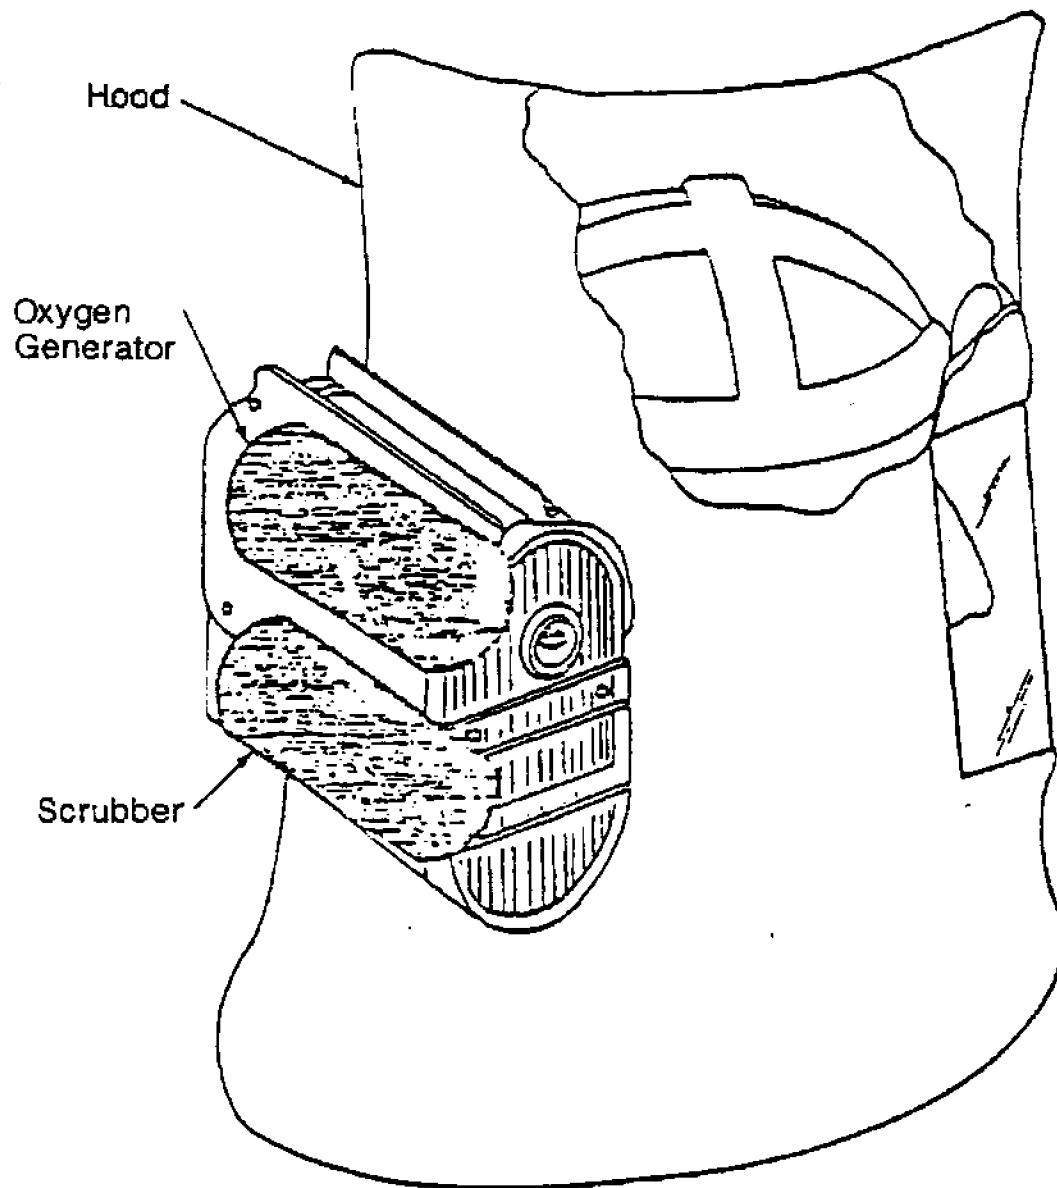

Figure 077-3-7. Emergency Escape Breathing Device Fully Donned
077-3.3.1 GENERAL. The Emergency Escape Breathing Device (EEBD) is part of the allowance for all surface ships. The EEBD is a self contained, hooded emergency breathing device used for escape from compartments contaminated by smoke, fluorocarbon refrigerants, or other atmospheric toxic gases. The EEBD is illustrated, as worn, in Figure 077-3-7. Additional details on the EEBD are contained in the technical manual (NAVSEA SS600-AF-MMO-010).
5. Stand straight up and pull hood down until the head straps (see Figure 077-3-7) fit snugly around your head. Be sure the neck seal is in contact with your neck, and there is no clothing or hair between the neck and the neck seal.